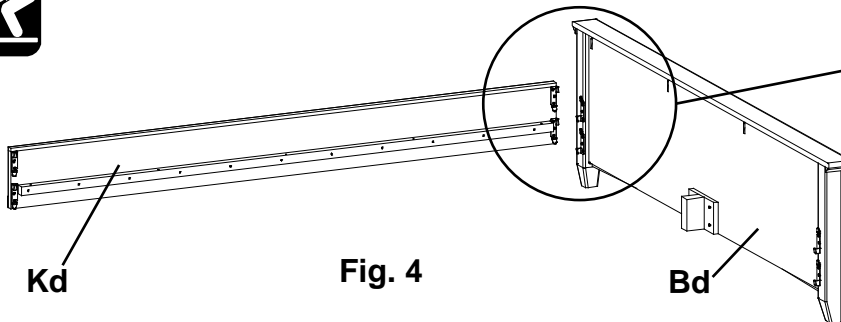

**Fig. 3**
3. Attach the Top Assembly (YH) to the Headboard Assembly (Ac) by inserting two #8x1-1/4" Pan Head Screws (YI) into the predrilled holes in the block that is attached to the Headboard Assembly (Ac). See Figures 3 and 3a.